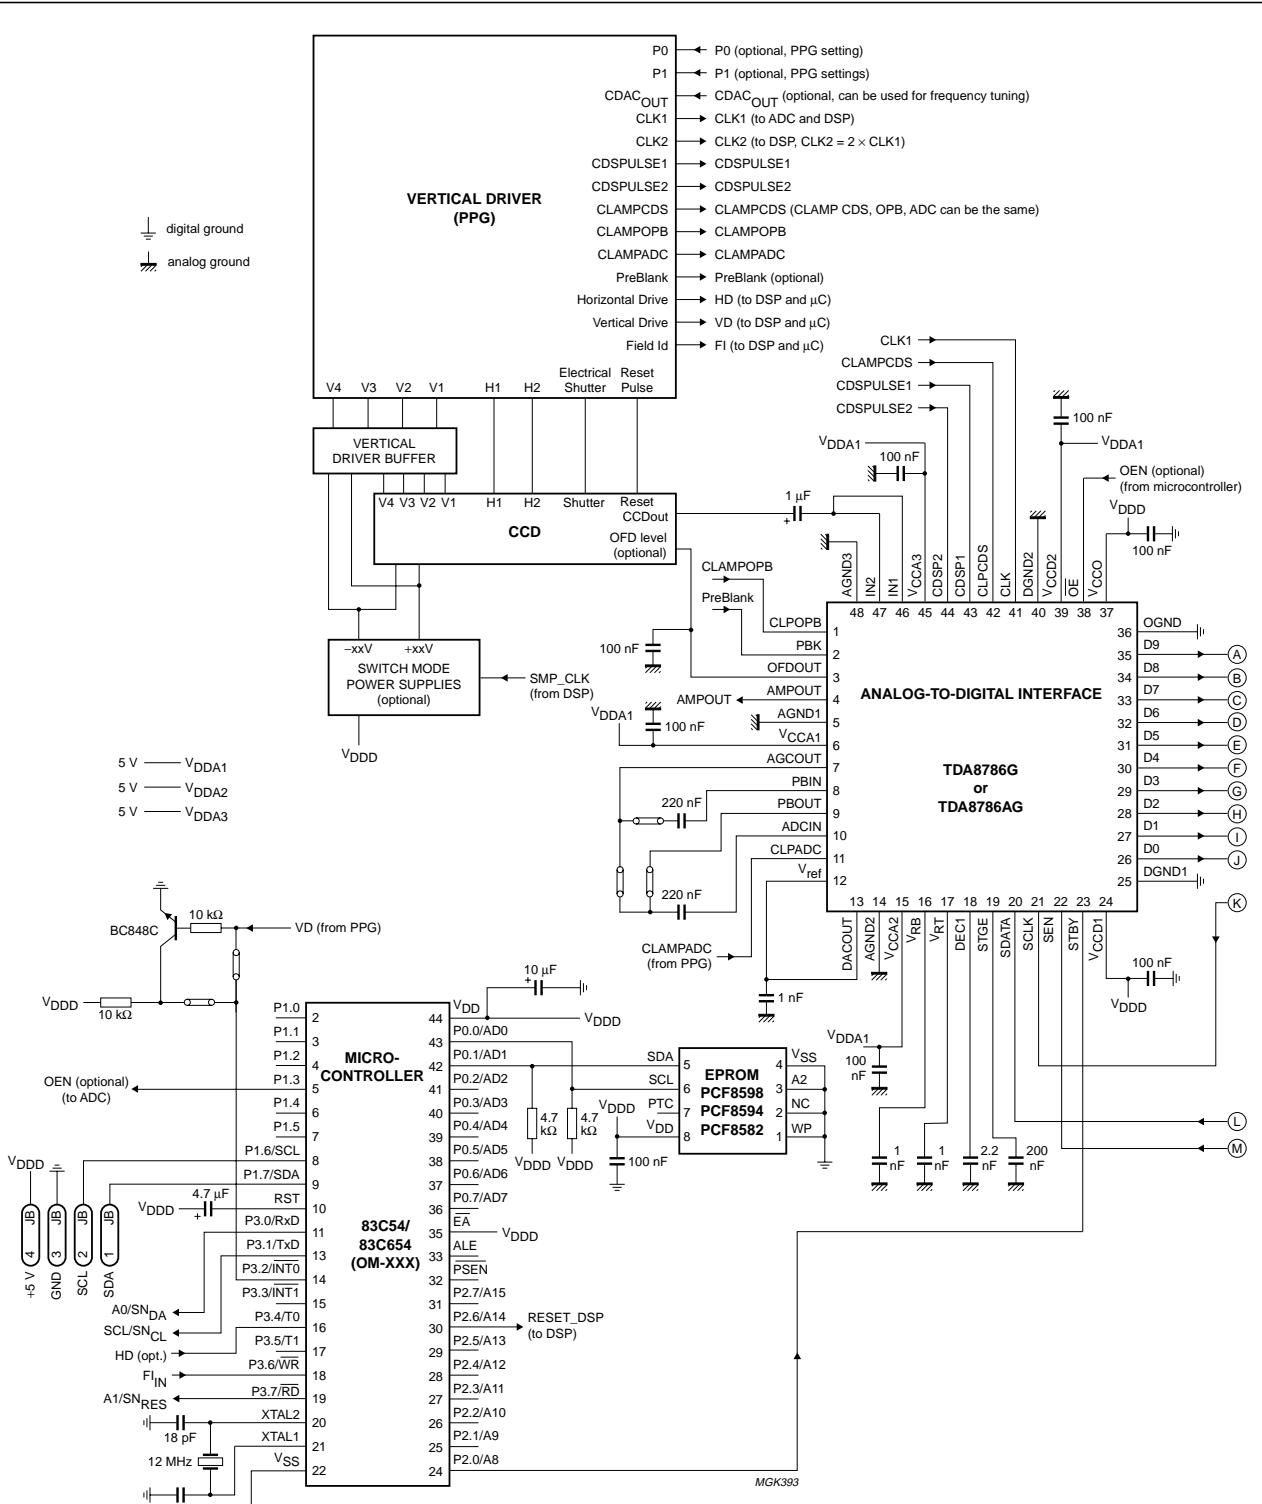

Fig.17 SAA8110G system configuration for camera application (continued in Fig.18).
Table 3 Possible components for the application of Figs 17 and 18
1. In the configuration of Figs 17 and 18, the microcontroller reads and writes data from/to the DSP using the SNERT-bus (UART mode 0). Optional external control is available via the I²C-bus.